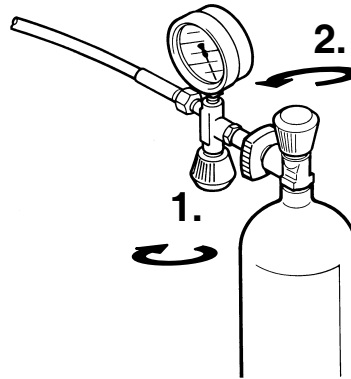

Abb. 17 Filling air bottle
- Open filling valve (1, Abb. 17).
- Open bottle valve (2) - bottle will be filled. Drain condensate regularly during filling. On units with automatic condensate drain check that condensate is drained regularly.